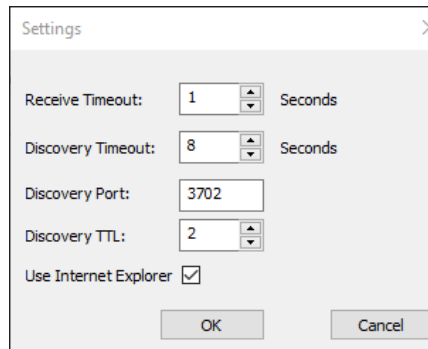

Figure 5: Discovery Timeout Settings
3. Set a new **Discovery Timeout** using the up and down arrow buttons. Refer to **Figure 5**.